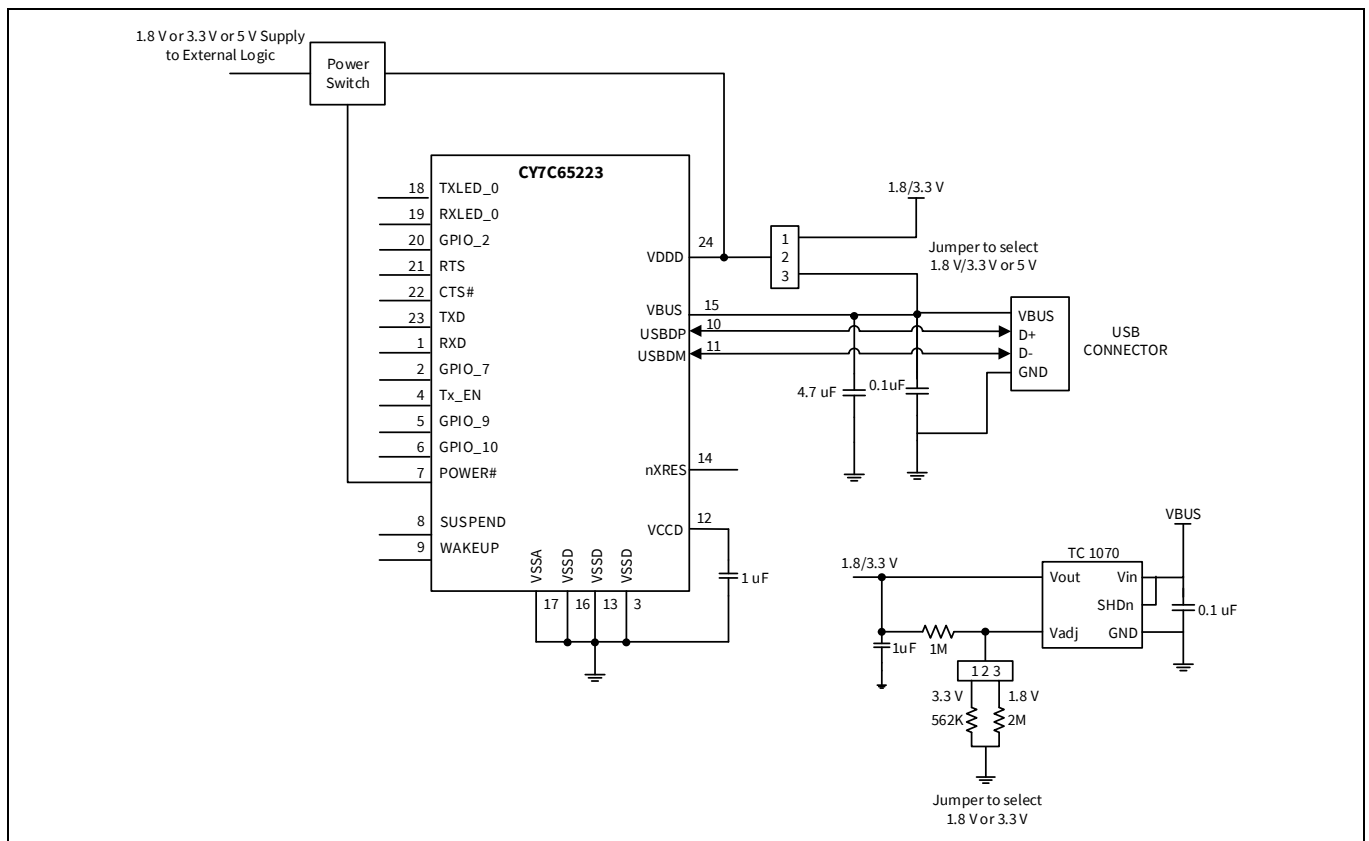

**Figure 5** USB bus-powered with 1.8-V, 3.3-V, or 5-V variable I/O voltage [6]
**Figure 5** shows CY7C65223 in a bus-powered system with variable I/O voltage. A low dropout (LDO) regulator is used to supply 1.8 V or 3.3 V, using a jumper switch the input of which is 5 V from the VBUS. Another jumper switch is used to select 1.8/3.3 V or 5 V from the VBUS for the VDDD pin of CY7C65223. This allows I/O voltage and supply to external logic to be selected among 1.8 V, 3.3 V, or 5 V.